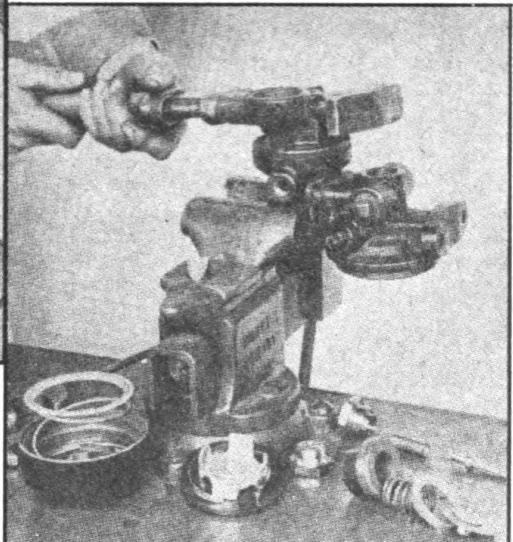

FIGURE 42. LIFTING OUT SPRING AND RETAINER
2. Lift out spring and strainer (Figure 42).